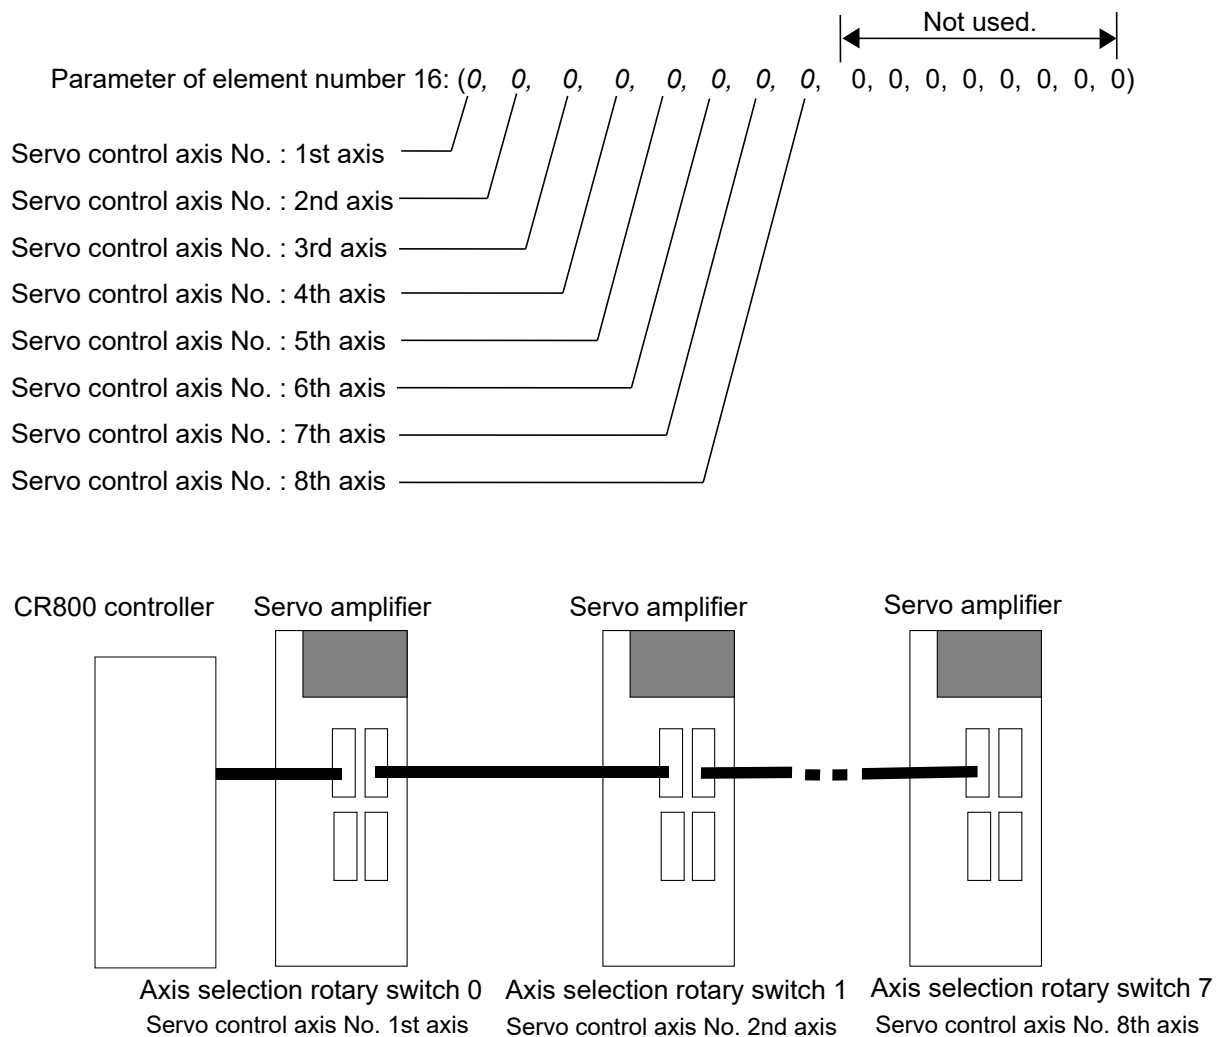

Fig. 8.2.1 Control No. and parameter element of servo
- (3) AXJNO (Setting axis No.)
- (4) AXUNT (unit system)
- (5) AXSPOL (motor rotation direction)
- (6) AXACC (acceleration time) · AXDEC (deceleration time)
- (7) AXGRTN (total speed ratio numerator) · AXGRTD (total speed ratio denominator)
- (8) AXMREV (rated rotation speed) · AXJMX (maximum rotation speed) · AXENCR (encoder resolution)
- (9) AXJOGTS (JOG smoothing time constant)
- (10) MEJAR (joint operating range)
- (11) USERORG (user designated origin)
- (12) About the User Definition Area
Moreover, the parameter elements of (2) to (9) correspond to the control axis Nos. of the servo as shown in "Fig. 8.2.1 Control axis No. and parameter element of servo". If any personal computer support software (which enables the program editing, parameter setting, various monitors and so on of the robot) is used, (10) and (11) are the mechanical parameters and the others are arranged in the common parameters.